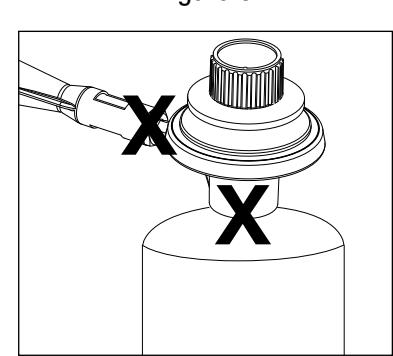

Figure 5
If your unit was assembled for you, visually check the connection between the burner and regulator/control knob (Figure 5).
3. Apply the leak detection check solution on all "X" locations (Figure 5).